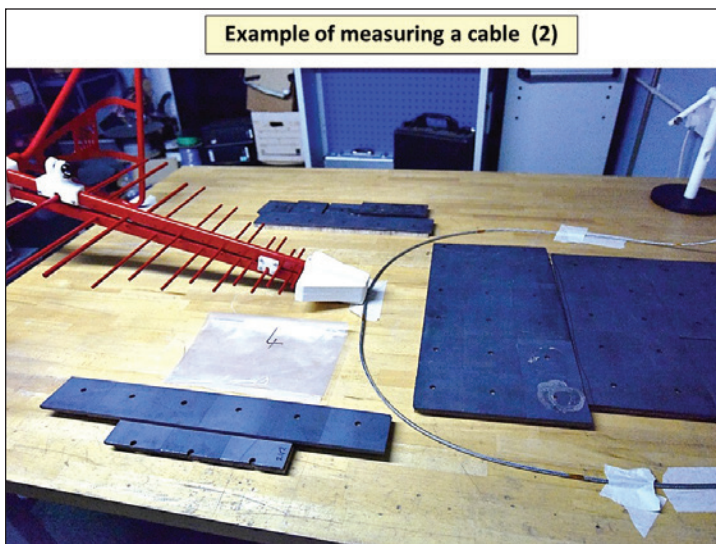

Figure 9: Example of measuring a cable, showing injecting RF into a cable
3. Frequency-related variations in the coupling between the antenna and the measured cables (see Figure 9);